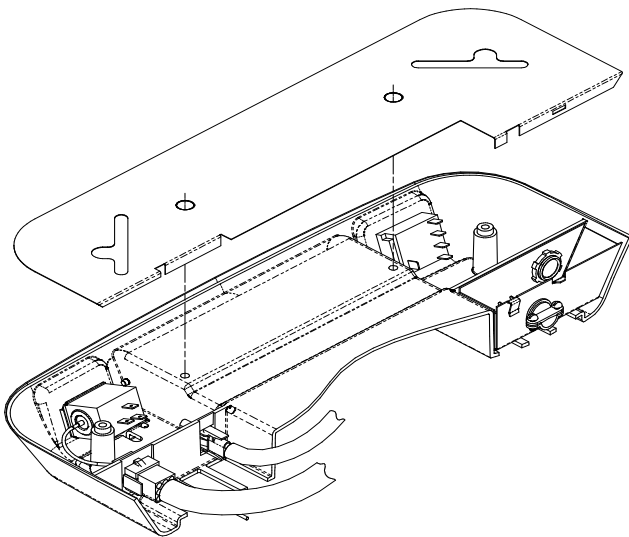

FIGURE 7
an Electric Heating Element, plug the heater cord into the 2 position receptacle (See Figure 7).
- H. Place the metal control box shield over the thermostat, switch and field wiring boxes. Make certain that all wires are pushed into the control boxes or laying in the wireway between the thermostat and switch boxes and will not be pinched by the control box shield. Control box shield is properly installed when the two holes in shield are aligned with the two screw holes in the ceiling assembly chute (See Figure 7).
- J. The ceiling assembly shroud is curved to contour to a crowned ceiling. If installation is to a flat ceiling and gaps are present on the sides of the shroud, insert the four optional 3/4 inch screws (provided) through the mounting posts and secure them to the mounting frame above (See Figure 7, 8 & 9 for screw locations).